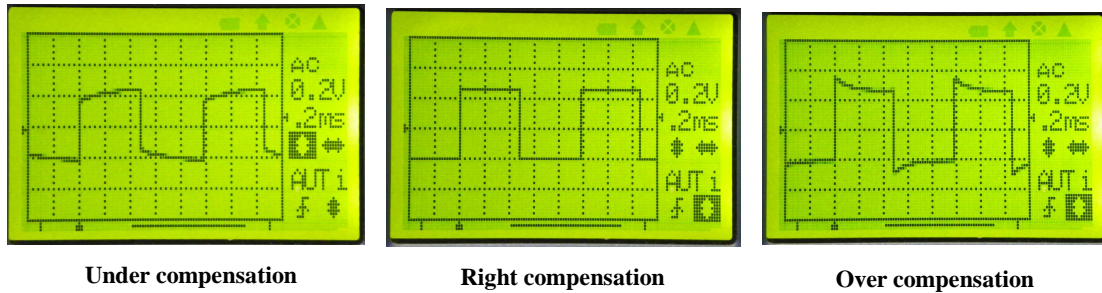

Fig. 3
2. Change oscilloscope settings so that 1 ~ 2 cycles are displayed on screen with amplitude being 2 ~ 3 divisions. (see Fig. 3 as an example)
3. Turn Ca with a small screw driver so that best waveform shape (the middle of Fig. 3) is obtained.